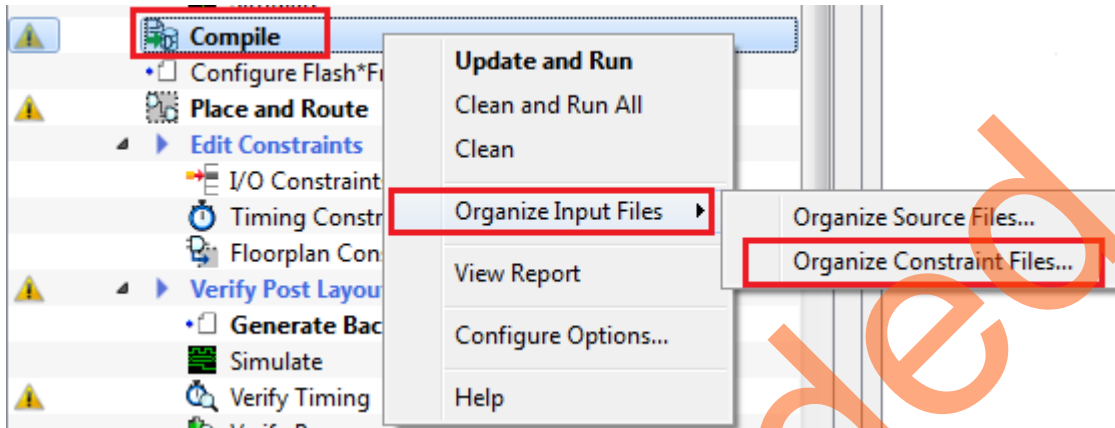

Figure 33. Organize Timing Constraints
1. Right-click **Compile**, select **Organize Input Files** and click **Organize Constraint Files**, as shown in Figure 33.